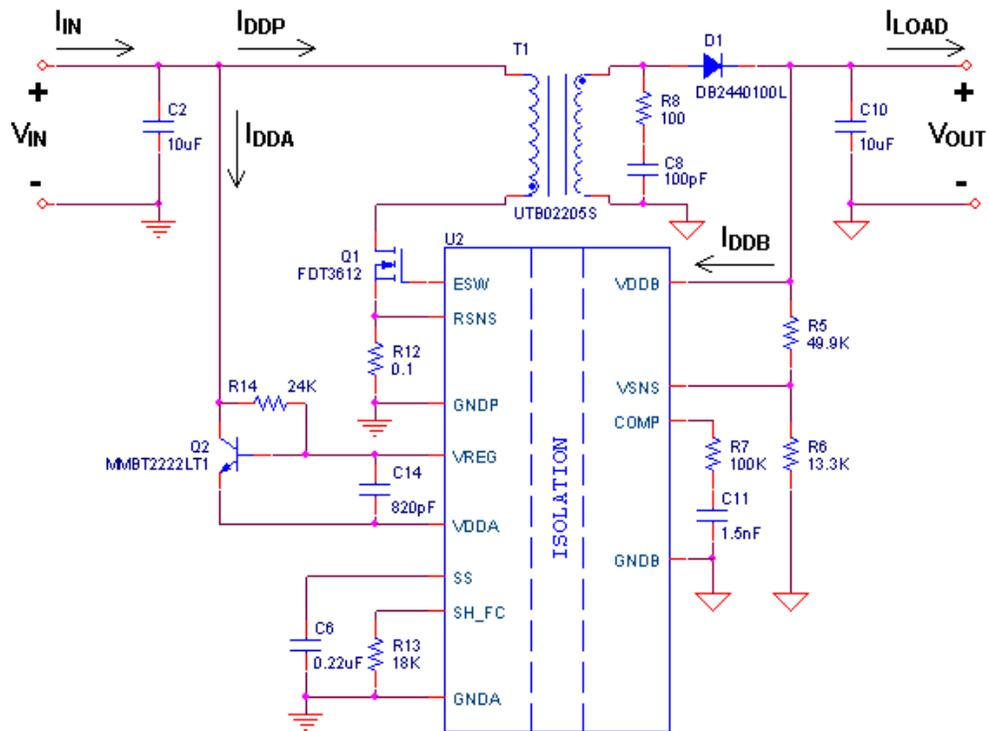

Figure 3. Measurement Circuit for Converter Efficiency and Regulation for Si884xx, Si886xx
*Note: Maximum value allowed in the event of a failure. Refer to the thermal derating curve in Figure 3.